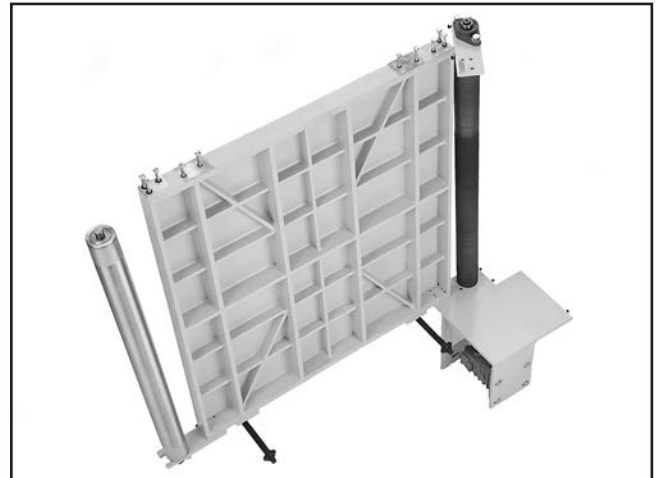

Figure 76. Conveyor belt removed from table.
19. Remove the brackets from the left side of the table and remove the belt (see **Figure 76**).